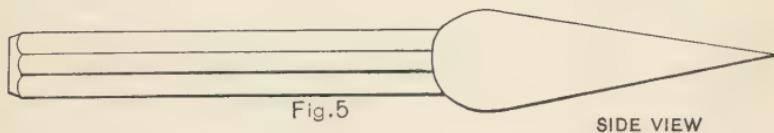
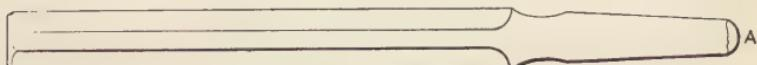

Fig.5
Fig.6
**Cape Chisels, Grooving Chisels, Etc.**—A cape chisel Fig. 5, should be drawn down square at first, then fullered as in Fig. 6, then forged to shape as in Fig. 5. All chisels and punches should first be drawn down square before forging to shape, as by so doing the center of the steel comes out as at *A*, Fig. 6. Another important thing about chisels is always to cut plenty off the drawn out end. Make a cut on each side and after the chisel is tempered, break off. (See dotted line at *B*, Fig. 5.)